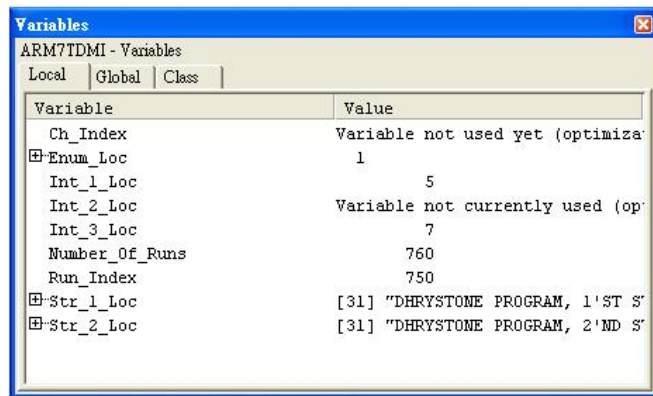

Figure 11. Examining the contents of variables.
- 5.1 Right-click in the window, select **Properties... → Dec** and click **OK**. The display is now in decimal format and is similar to that shown in Figure 11.